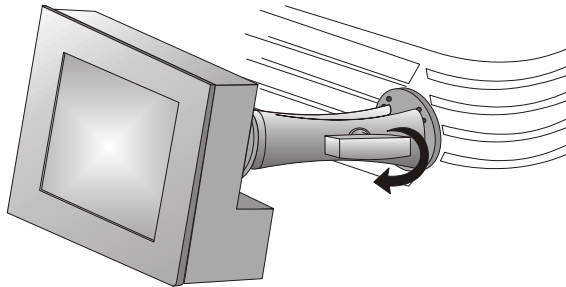

Figure 2-4 Tighten Mounting Arm
2. Tighten the mounting arm until it fits snug on the ball joint (**Figure 2-4**).